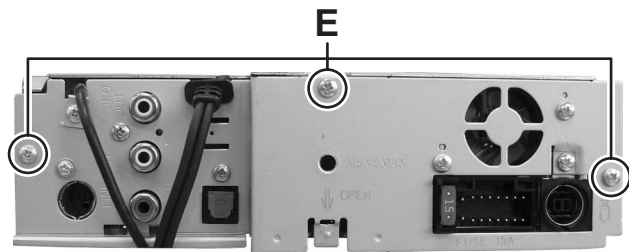

Fig.5
- (2) Remove the three screws **E** attaching Rear bracket. (See Fig.5)